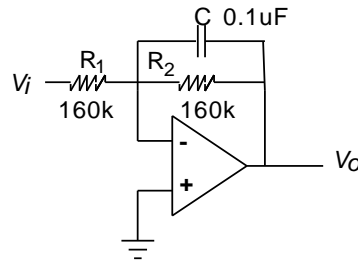

Fig. 4 1st order LPF circuit
Fig. 4 shows a simple 1st order LPF circuit.
- (6) Adjust the phase shifter to make sure the phase difference between the output sine wave and the square wave is **either 0° or 180°**. Note that if the phase is 0°, the waveform should look like a signal from a full-wave rectifier (head up). If the phase is 180°, it should be head down. Save your oscilloscope screen, showing the output of the PSD against the square wave from the function generator, to your USB memory. **Note that you just need to show either 0° or 180°.**
- (7) Adjust the phase shifter to make sure the phase difference between the sine wave and the square wave is **either 90° or -90°**. Save your oscilloscope screen, showing the output from the PSD and the square wave from the function generator, to your USB memory. **Note that you just need to show either 90° or -90°.**
- (8) Add all pin numbers to the LPF circuit shown in Fig. 4 and build the circuit. Note that when you test the frequency response of your LPF circuit, you need to connect the input of the LPF circuit to the sine-wave signal of the function generator directly, NOT your PSD circuit. Switch on your function generator. Examine the amplitude-frequency response of the LPF circuit using the dual-track oscilloscope. Note that to draw a Bode plot you have to use a log scale for frequency in the x-axis and you have to calculate your amplitude response by $20\log \frac{\text{output}}{\text{input}}$. Because of the log-scale for frequency, you can choose the following frequencies for your test: 1, 2, 4, 6, 10, 20, 40, 60, 100, 200, 400, 600, and 1000 Hz.
- (9) Find the cut-off frequency (-3 dB) by changing the frequency and write down the frequency and amplitude at this point.
Question 3: With a cut-off frequency of 10 Hz of the LPF as shown in Fig. 4, calculate how many times a 1 kHz signal is attenuated? If the cut-off frequency is increased to 100 Hz, how many times is the signal attenuated?